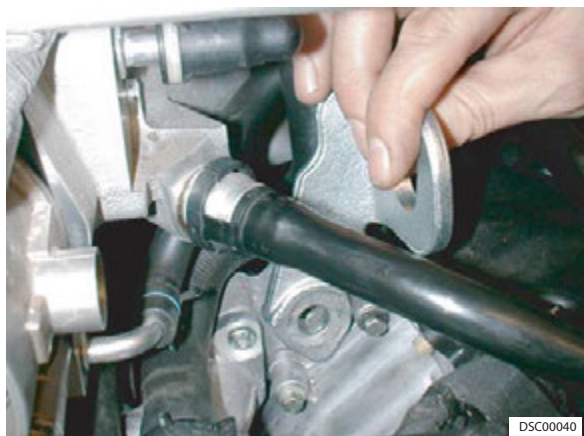

Figure 2
3. Remove engine lifting brackets (refer to Figure 2).